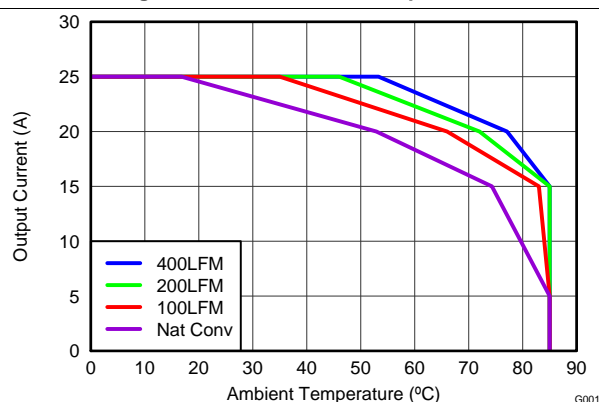

Figure 3. Safe Operating Area – PCB Horizontal Mount
$T_J = 125^{\circ}\text{C}$ , unless stated otherwise. The Typical Power Block System Characteristic curves Figure 3 and Figure 4 are based on measurements made on a PCB design with dimensions of 4.0-inches (W) × 3.5-inches (L) × 0.062-inch (H) and 6 copper layers of 1-oz. copper thickness. See Applications for detailed explanation.
$T_J = 125^\circ\text{C}$ , unless stated otherwise. The Typical Power Block System Characteristic curves Figure 3 and Figure 4 are based on measurements made on a PCB design with dimensions of 4.0-inches (W)  $\times$  3.5-inches (L)  $\times$  0.062-inch (H) and 6 copper layers of 1-oz. copper thickness. See Applications for detailed explanation.
The SOA curves in the CSD87588N data sheet provide guidance on the temperature boundaries within an operating system by incorporating the thermal resistance and system power loss. Figure 3 to Figure 4 outline the temperature and airflow conditions required for a given load current. The area under the curve dictates the safe operating area. All the curves are based on measurements made on a PCB design with dimensions of 4-inches (W) x 3.5-inches (L) x 0.062-inch (T) and 6 copper layers of 1-oz. copper thickness.